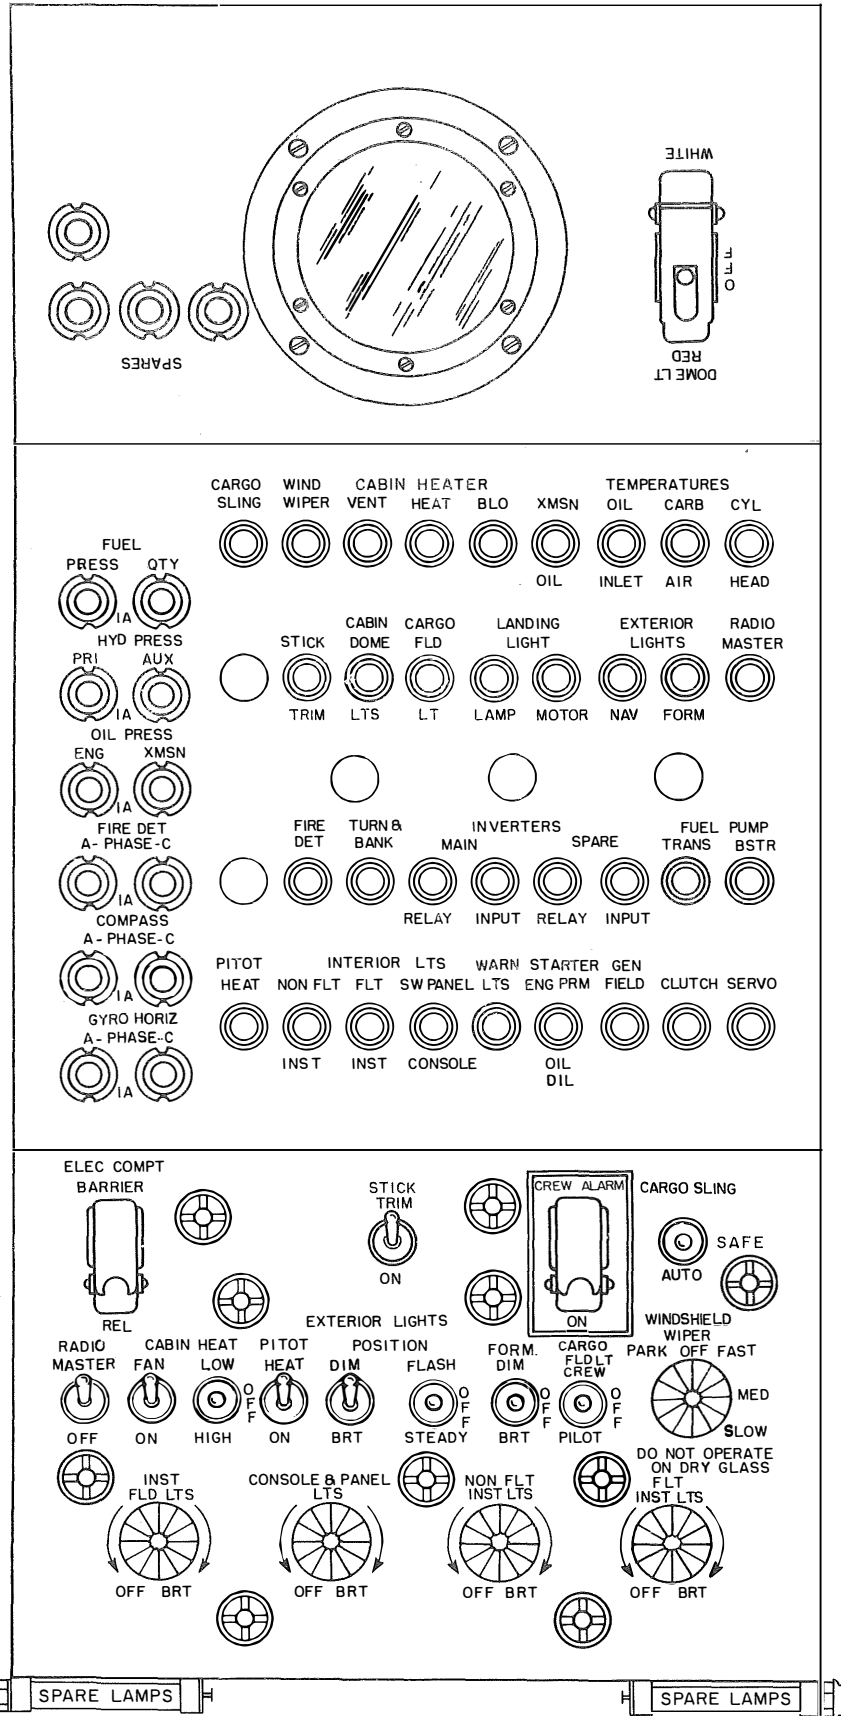

Figure 7-7. Overhead Control Panel
7-59. DESCRIPTION. (See figure 7-7.) The overhead control panel contains the overhead switch panel (4, figure 7-1), the electrical fuse and circuit breaker panel (5) and the cockpit dome light panel (6). The electrical relay and resistor installation (7) is located behind the cockpit dome light panel.